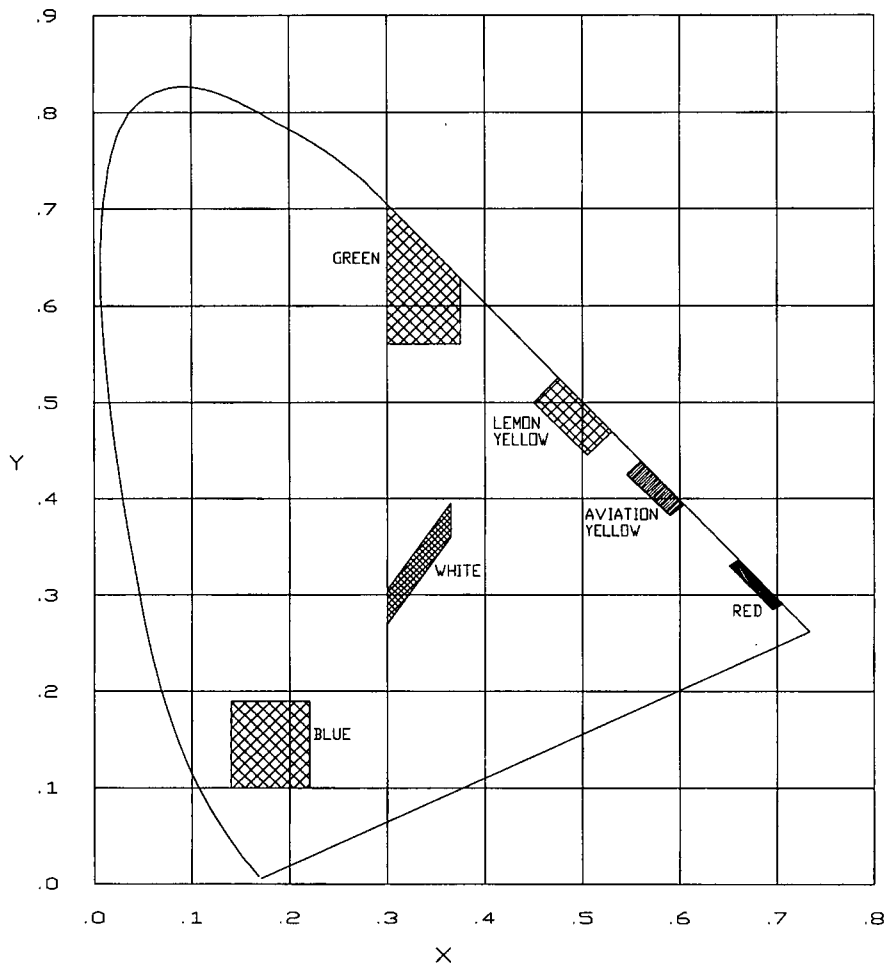

Figure 45 High Brightness LED Colors-CIE 1931 Chromaticity Diagram
3. Color, Series 90 Code, see Figures 45, 46, and Sec 5 Table 8.
High Brightness LED colors are shown in the CIE 1931 Chromaticity Diagram of Figure 45.
Note: The color limits of the Chromaticity Diagram of Figure 45 and Table O are preliminary and subject to change.